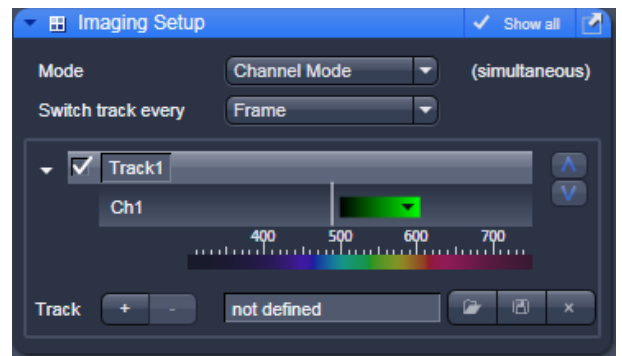
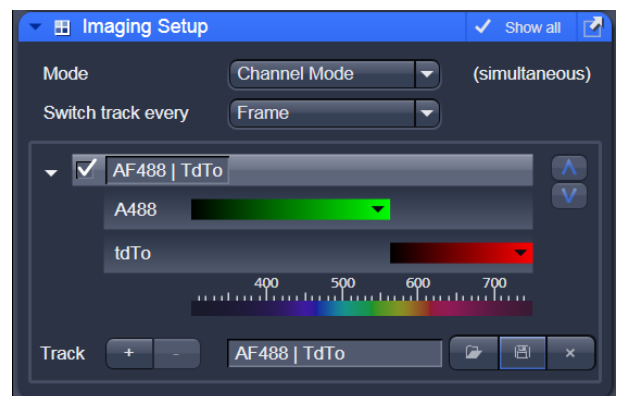
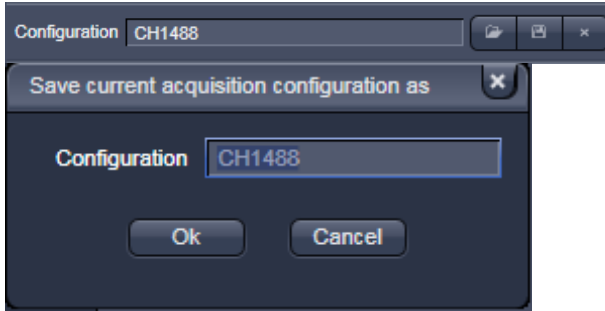

Fig. 17 Imaging Setup tool for a single track (LSM)
Fig. 18 Detection Bands & Laser Lines display
Fig. 19 Track Configurations window
- Select **Channel Mode** if necessary (Fig. 17).
- In the **Imaging Setup** tool the Detection Bands & Laser Lines are displayed in a spectral panel (Fig. 18) to visualize the activated laser lines for excitation (vertical lines) and activated detection channels (colored horizontal bars).
- For storing a new configuration click  and enter a desired name in the first line of the list box (Fig. 19), then click **Ok** to store the configuration.
The following functions are available in the **List of Tracks** panel in the **Imaging Setup Tool** (Fig. 17, Fig. 18 and Fig. 19).